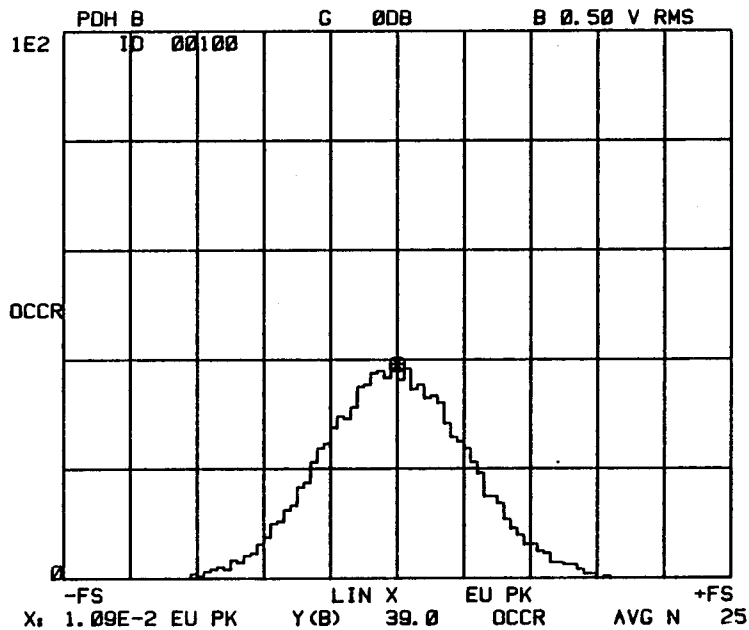

Figure 4-37. Display PDH B (LOWER Trace) and Y GAIN 0 dB.
- c. Press the DISPLAY group UPPER/LOWER touch control. The LED should go out indicating LOWER trace. Compare the display with Figure 4-37.